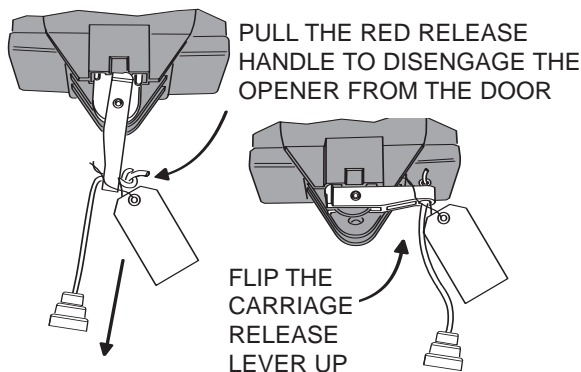

Figure 1 Operating the release mechanism
- Pull the red carriage release knob to disengage the carriage from the opener (**Figure 1**).